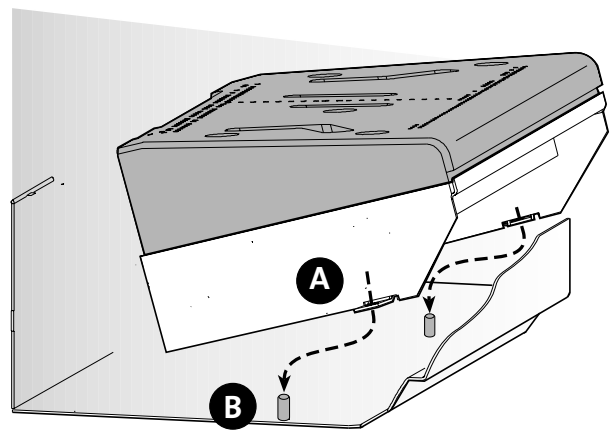

Figure 7.10. Burner installation.
- Tilt the burner assembly back as shown in fig 7.10 to engage it with the injectors in the back wall and the shutter trays on the firebox floor. Settle the assembly on the floor engaging the front retainer brackets (A) with the adjacent floor studs (B).